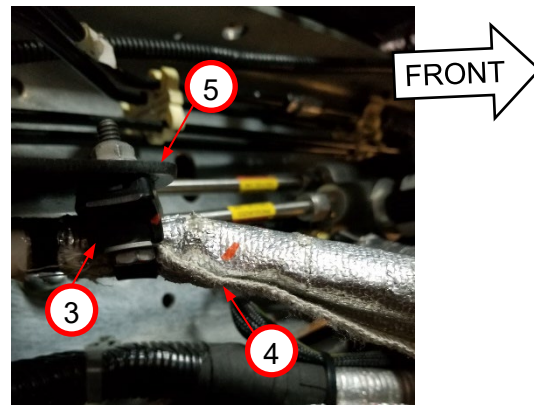

Figure 3:
7. Use a pair of wrenches to remove clamp (3) securing LP fuel hose (4) to LP filter bracket (5). *Figure 3*